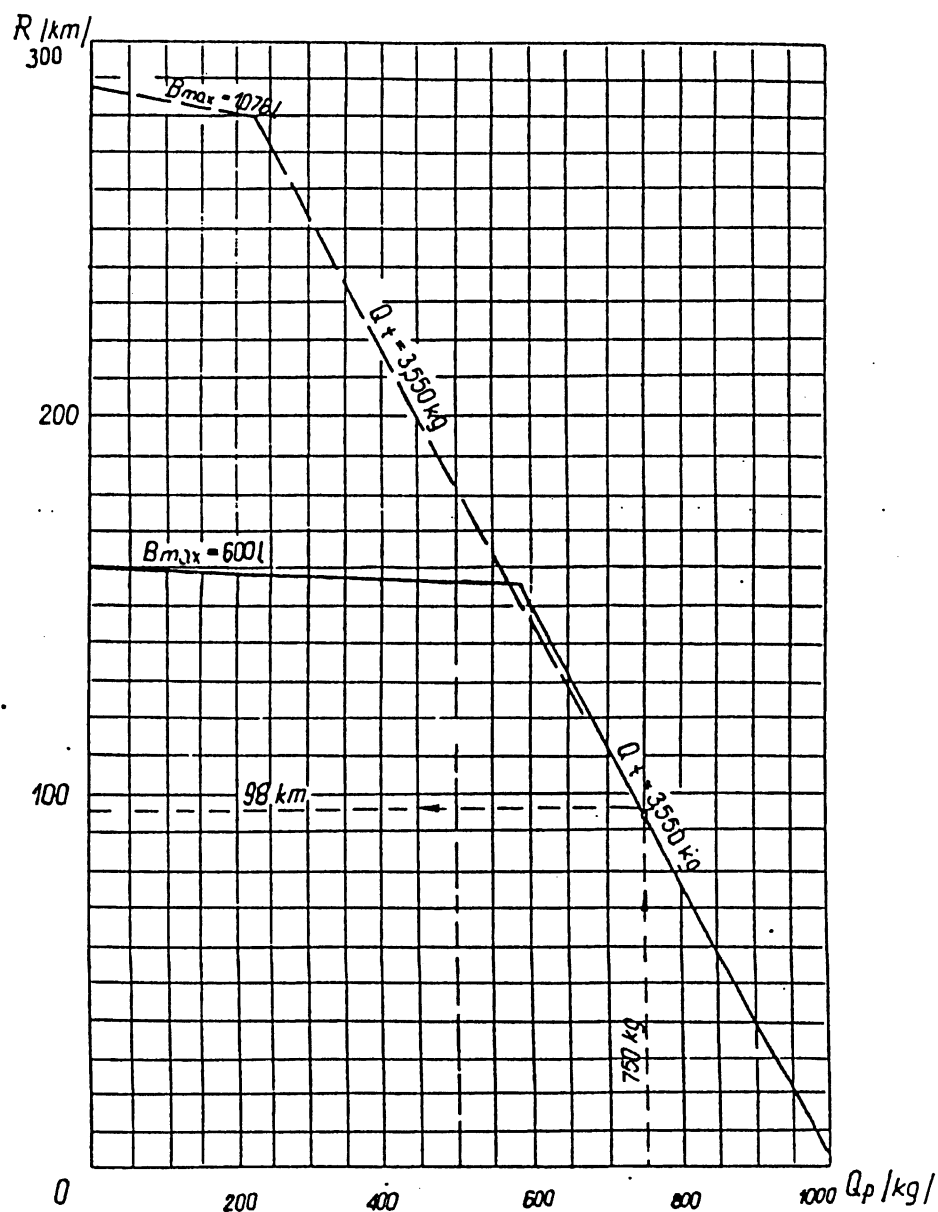
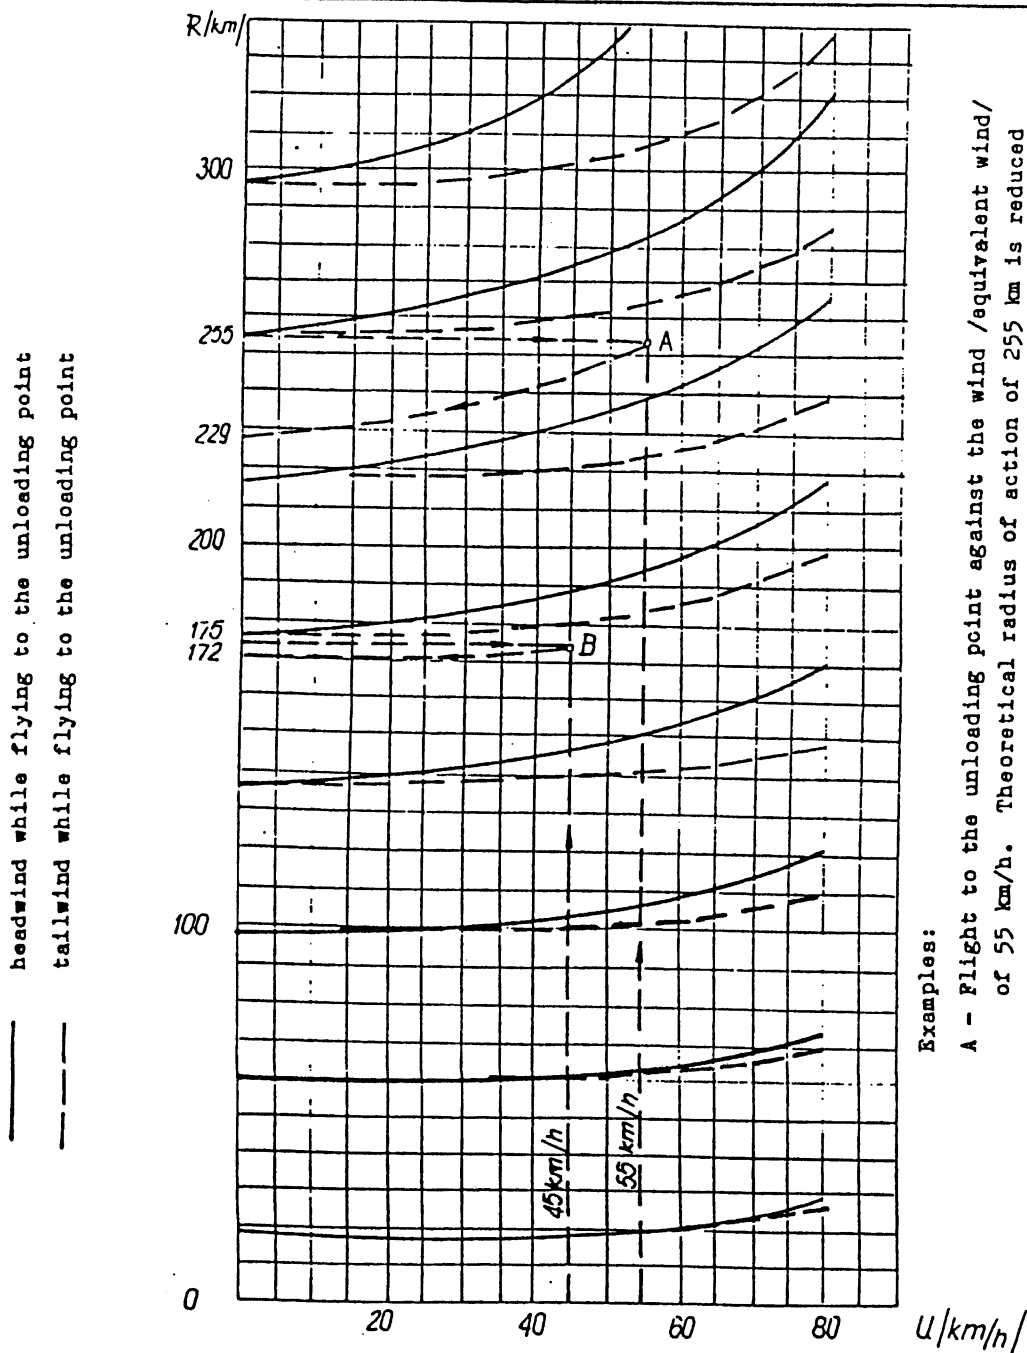

Fig. 5.15. RADIUS OF ACTION AT 100 m PRESSURE ALTITUDE
Fig. 5.20. RELATIONSHIP BETWEEN RADIUS OF ACTION
The charts in Figs. 5-15, 5-16, 5-17, 5-18 and 5-19 provide a means of determining the radius of action for specific flight altitude and loading.
In order to make allowances for the wind speed, refer to Table V-5 and charts in Fig. 5-20.
The chart in Fig. 5-20 shows the "equivalent head/tailwind" affects the radius of action determined on the basis of charts in Figs. 5-15, 5-16, 5-17, 5-18 or 5-19, i.e. the initial section of flight path /from the point of departure to the point of unloading/.
3. From the applicable charts in Figs. 5-15, 5-17, 5-18 or 5-19, read a corresponding theoretical radius of action for windless conditions.
5. From the chart in Fig. 5-20, read the actual radius of action for the given wind conditions.